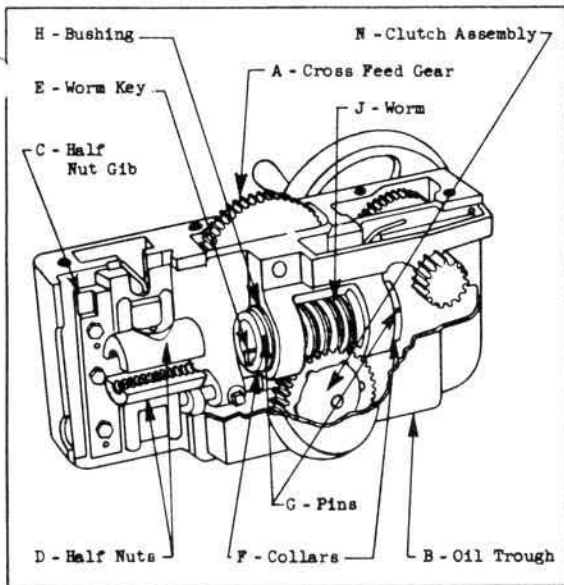
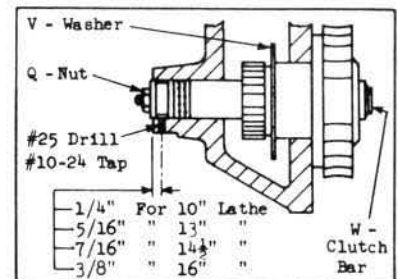
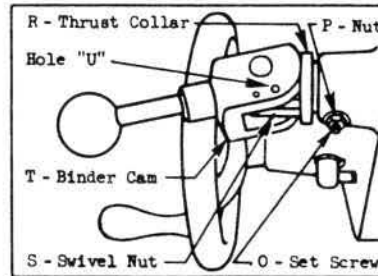
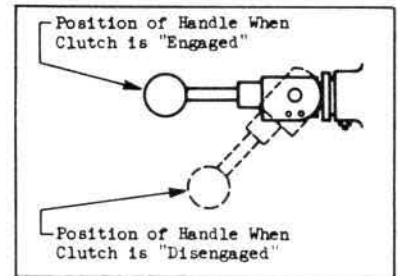

Fig. 1
Fig. 3
Fig. 4
Fig. 5
7. Remove apron from lathe by lifting up on the front of the saddle so the cross feed gear "A" (Fig. 1) in the apron will clear the saddle. Then slide apron off the lead screw at the tailstock end of the lathe but be careful not to bend lead screw.
8. Remove oil trough "B", half nut gib "C", half nuts "D" and key "E" (Fig. 1).
9. Mark the two collars "F" (Fig. 1) so when reassembling they can be replaced in their original position. Then drive out the two pins at "G" and unscrew both collars "F".
10. Remove bushing "H" (Fig. 1) carefully to avoid tearing felt wick. Note how felt wick is wrapped around worm gear. With bushing removed draw wick through hole bored for bushing.
13. Remove clutch assembly "N" (Fig. 1) from back of apron. The oil distributing washer "V" (Fig. 3) on the clutch may have to be positioned to permit removing.
14. Drill and tap hole in bottom of apron hub as shown in Fig. 3, then file bottom of hub flat so nut can be locked against this surface.
15. Install screw "O" and nut "P" (Fig. 4) but do not let screw "O" protrude into bored hole.
16. Position oil distributing washer "V" (Fig. 3) inside apron and insert new clutch assembly (Fig. 3). Apply slight pressure on clutch bar "W" (Fig. 3) and tighten set screw "O" and nut "P" (Fig. 4).
17. Apply pressure on clutch bar "W" (Fig. 3), remove nut "Q" and commercial washers (discard nut and washers). Maintain pressure on clutch bar, install collar "R" and swivel nut "S" (Fig. 4). Screw the swivel nut on tight enough so the handle will lock itself against the thrust collar in the "engaged" position (Fig. 5). It is important to maintain pressure on clutch bar until swivel nut "S" is fastened as allowing it to back up more than  $\frac{3}{32}$ " may cause the outside clutch plate to drop over the clutch sleeve and become distorted when tightened later.
18. Swing handle into a down or "disengaged" position (Fig. 5) and tighten swivel nut "S" (draw up as tight as possible) with Allen head wrench through hole shown at "U" (Fig. 4).
29. The clutch lever can be positioned (Fig. 5) by loosening set screw "O" and rotating the complete clutch assembly, then tighten set screw "O" and lock with nut "P". BEFORE TIGHTENING THE SET SCREW, HOWEVER, PULL SLIGHTLY ON THE CLUTCH LEVER ALLOWING THE CLUTCH MECHANISM TO COME FORWARD AS FAR AS POSSIBLE.